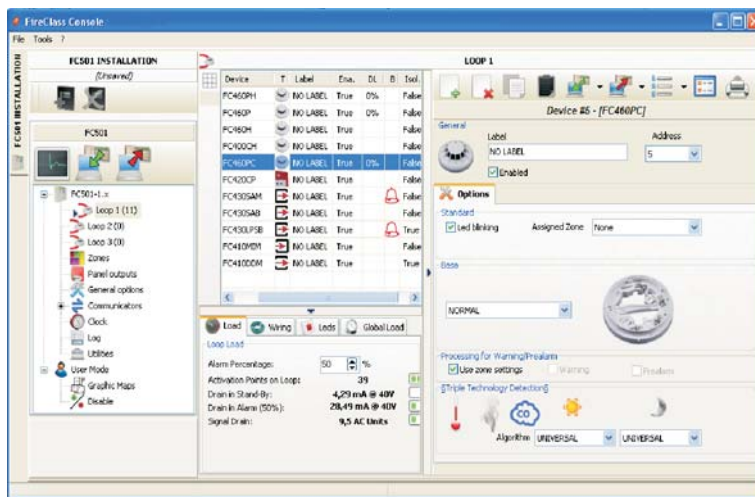

Figure 23 Detectors parameters programming Window
**Loop Loading** At the bottom of the programmed devices list, Figure 23, there is a **Loop Load** section. This windows displays the number of Activation points on the loop, the Drain in stand-By, the Drain in Alarm and the Signal Drain. The Alarm percentage can be adjusted.